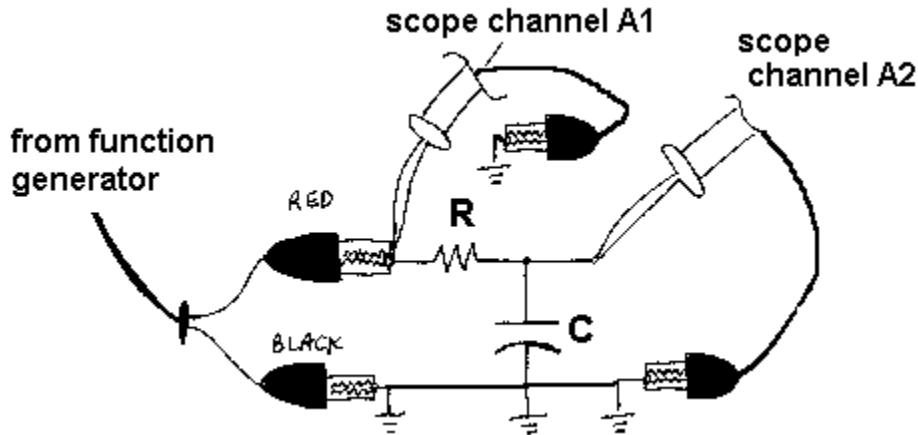

Figure 6: Set-up to graph the input & output signals of an RC circuit on the oscilloscope.
1. Build the circuit of Figure 6. $R_L = 200$ ohms, $C = 1 \mu\text{F}$. Apply $5 V_{pp}$, 500 Hz.